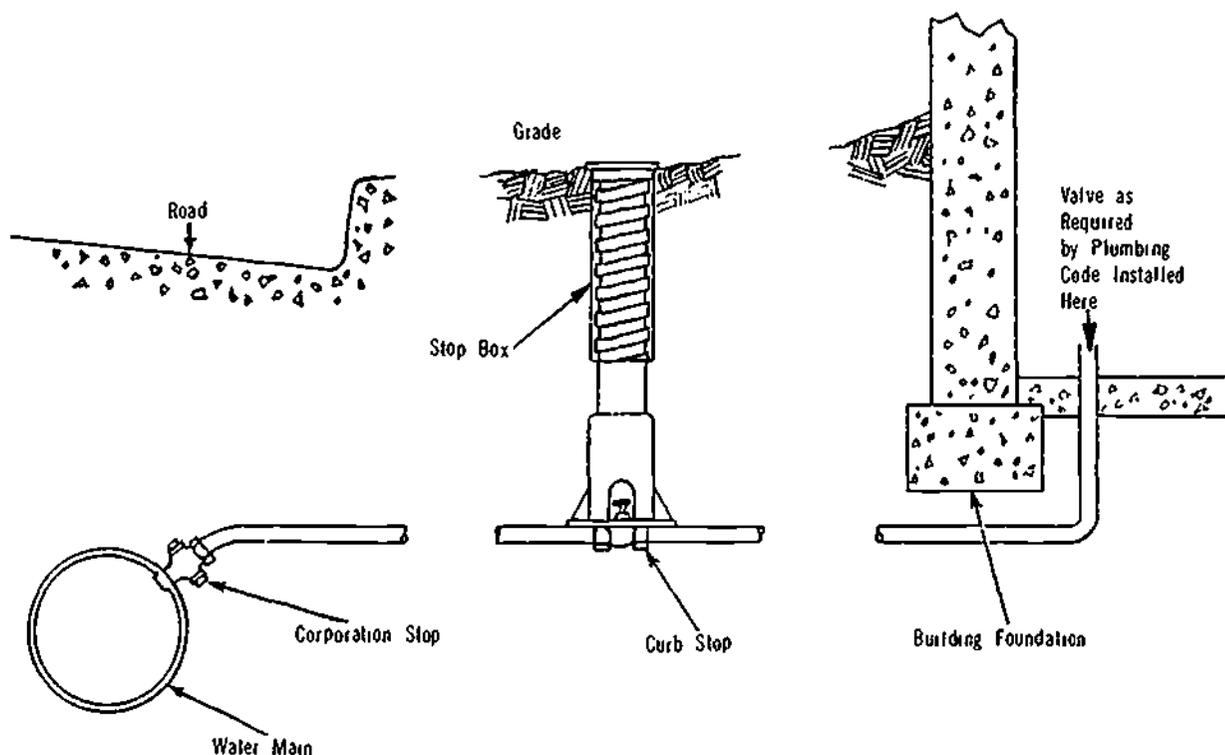

Figure 27-1. Installation Without Shutting Off Pressure
3. Figure 27-1 includes a corporation stop that could have been installed without shutting off the pressure in the water main.